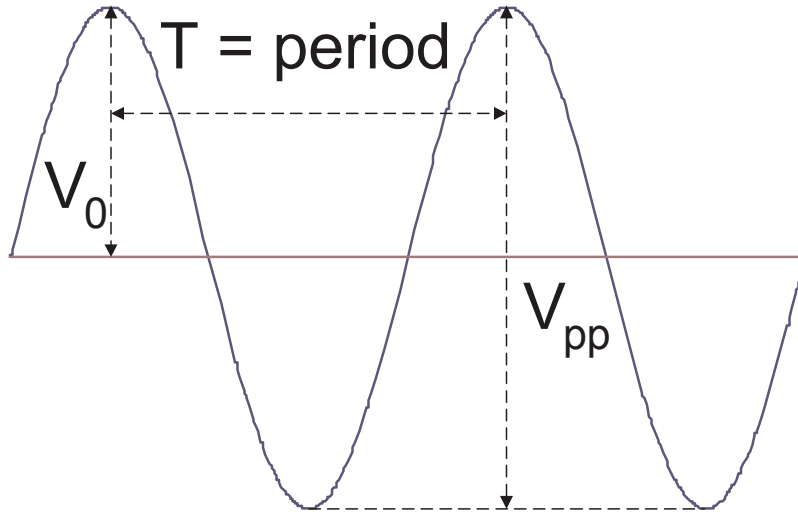

Figure 2.3: Sine-wave properties.
2. Sketch in your notebook the scope trace; be sure to include the scale settings. Be sure that your scope trace shows at least one full period of the sine wave, like Figure 2.3.